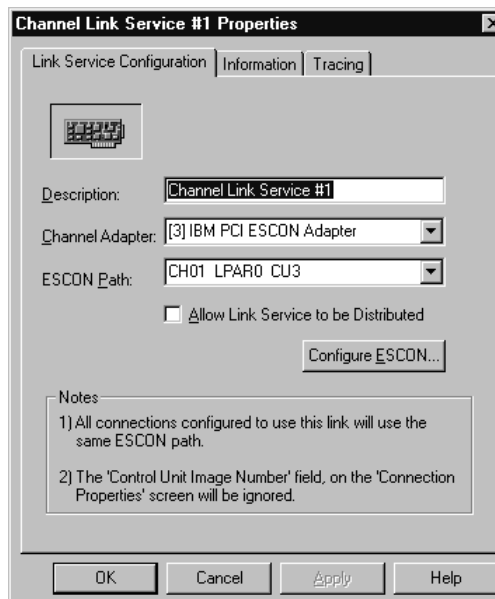

Figure 8-22. Link Service Properties
4. The Service Properties screen displays (Figure 8-22).